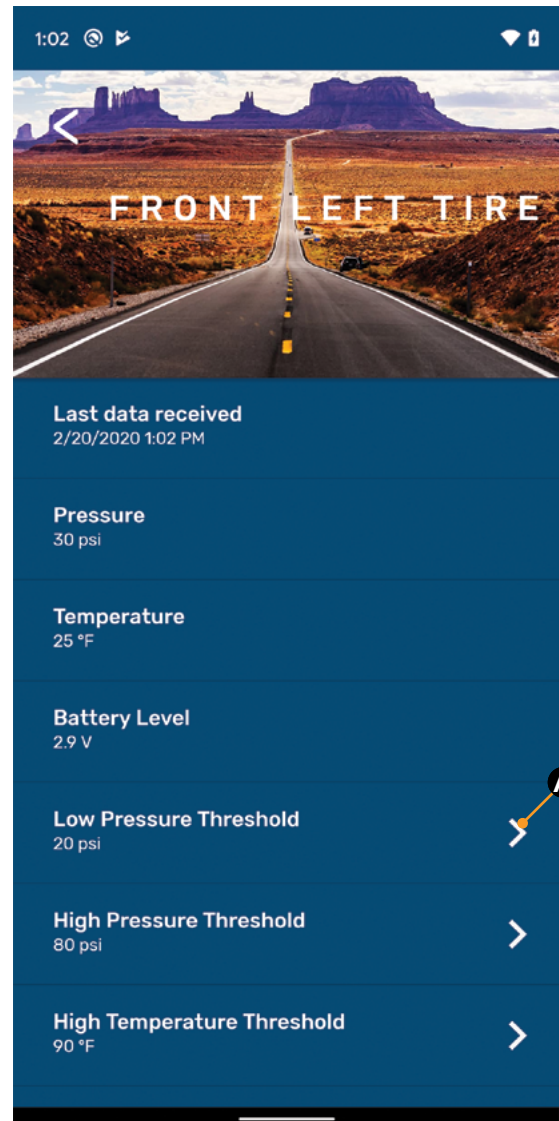

Fig.18
5. Tap the readout button (Fig.16A) of a tire to launch its properties window (Fig.18). Within the selected tire's properties window, various tire and sensor specifications can be observed and altered.
Programmable tire limits have a “next” arrow (>) (Fig.16A) that, when tapped, opens that feature's scrollable window of available settings. Scroll through the limits window to find the desired setting, select it, then tap the “back” arrow (<) (Fig.18) located above the tire's name at the top of the window's heading.
A. In this example, the reported current tire **Pressure** is listed as “30 psi” (Fig.18).
D. If the **Low Pressure Threshold** requires adjusting, tap the next arrow to launch its settings window (Fig.18). Scroll through the window until the current setting is found, then scroll to a desired limit and select it.